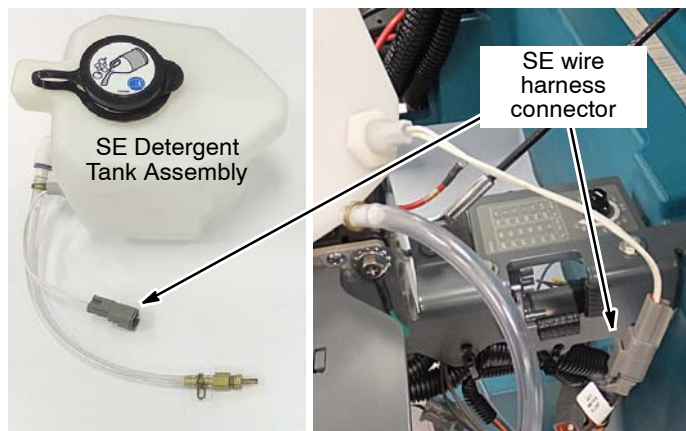

Fig. 32
8. Connect the SE detergent tank assembly wire harness connector to the located SE wire harness connector from Step 4 (Figure 32).